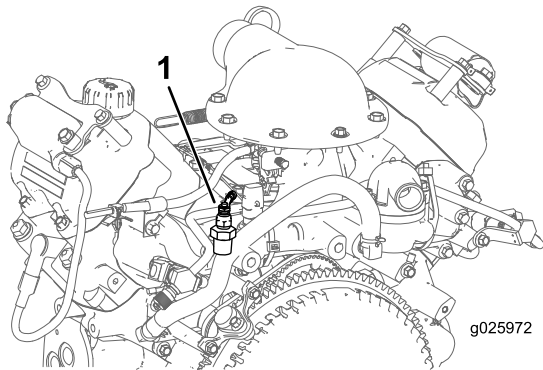

Figure 7
1. Remove the temperature switch from the thermostat housing and install a tee fitting (Figure 7).